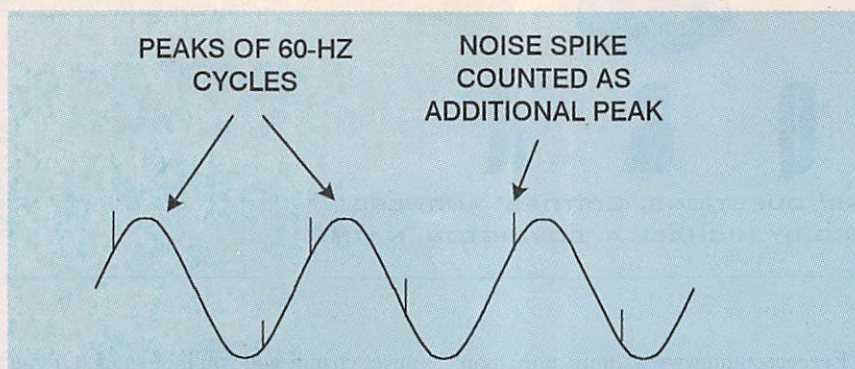

FIG. 3—NOISE SPIKES in a the electrical power lines could make a digital clock run fast.
**A** Two words: *electrical noise*. As shown in Fig. 3, a line-powered digital clock keeps time by counting cycles of the 60-Hz AC power. (This is normally more